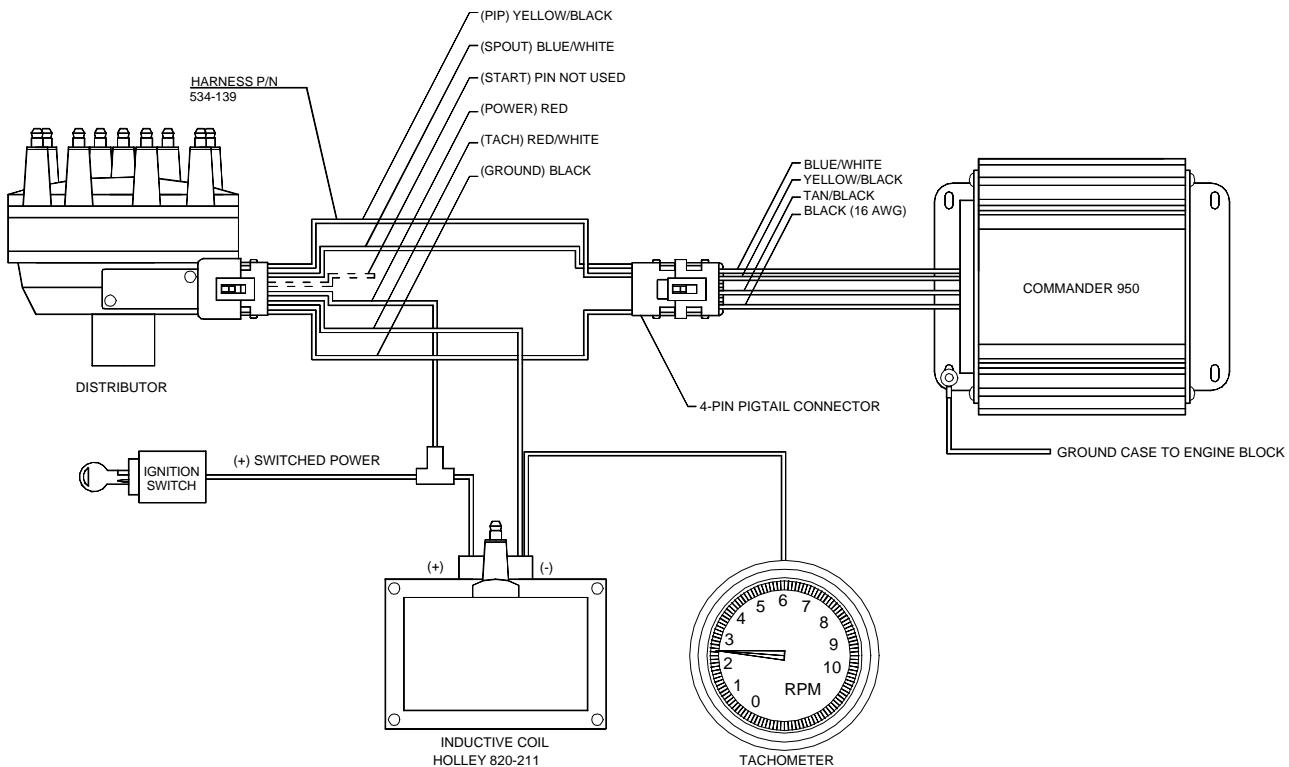

Figure 61
- Figure 61:** Commander 950 to Ford TFI Ignition Using Ford Computer Controlled Distributor, TFI Module.